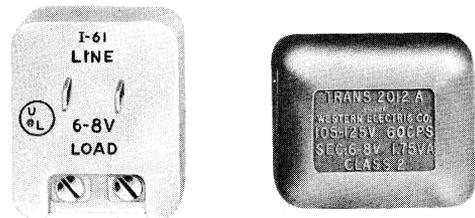

Fig. 4—2012A Transformer
- 2.04 The 2012A or 2012C (Fig. 4 or 6) transformer supplies power for telephone sets with dial night light feature and is available in Light Olive Gray (-49) or Ivory (-50).